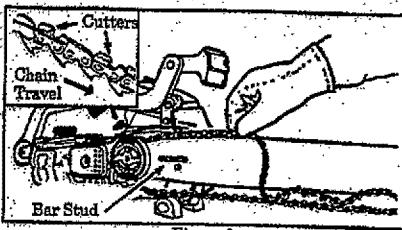

Figure 9
- Hold the chain with the cutters facing as shown in Figure 9 (inset).
- Start at the top of the bar and fit chain drive links into the groove around the guide bar. Figure 9.